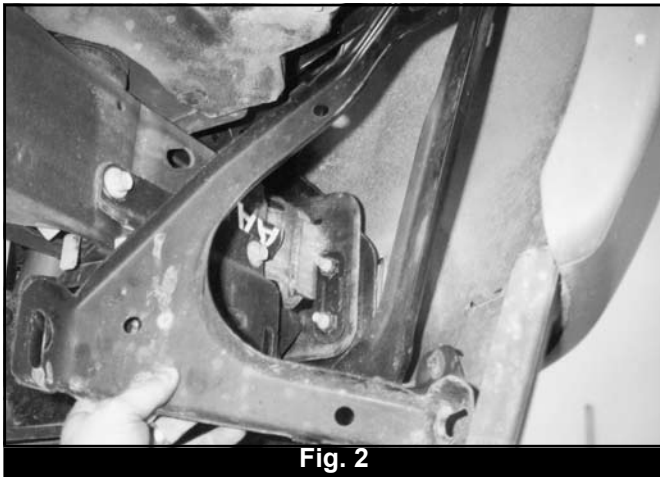

Fig. 2
8. **2001 models & newer only:** Remove the side bumper support braces and retain factory hardware. (Fig. 2)